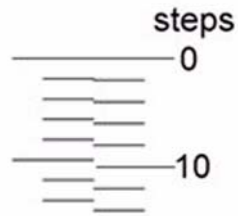

Figure 8 Line pairs at K3
1. Locate the pair of lines at **K3** that best matches the amount of line offset at area **J** on the ROM pattern (Figure 8).